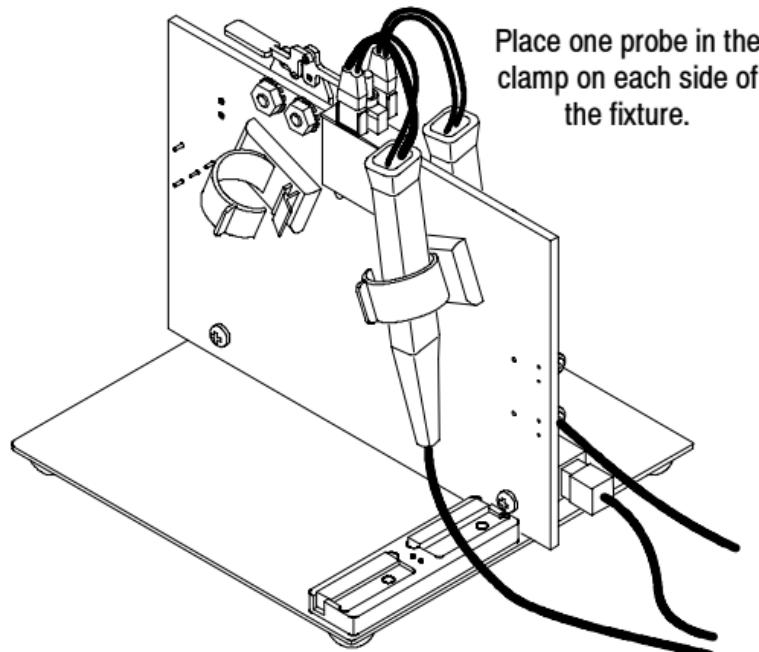

Figure 2: Connecting probes to the Deskew fixture using the Tip-Clip assemblies
- a. Connect the probes to the fixture using the clamps on the fixture and the Tip-Clip assemblies as shown in Figure 2.